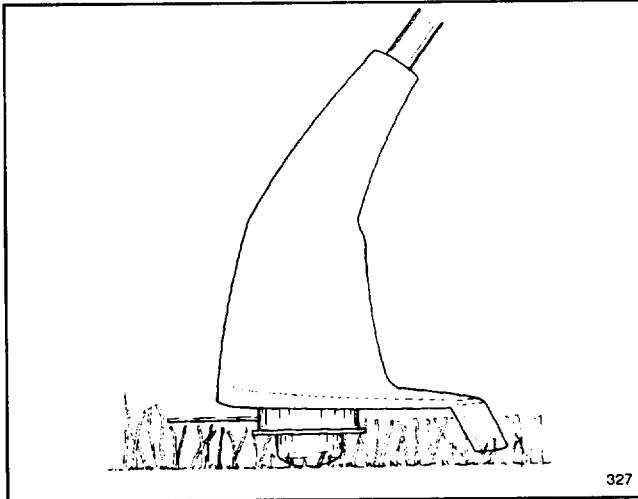

Figure 15
9. **Never drag the trimmer spool cap on the ground while trimming (Fig. 15). This causes motor overload and spool cap wear.**